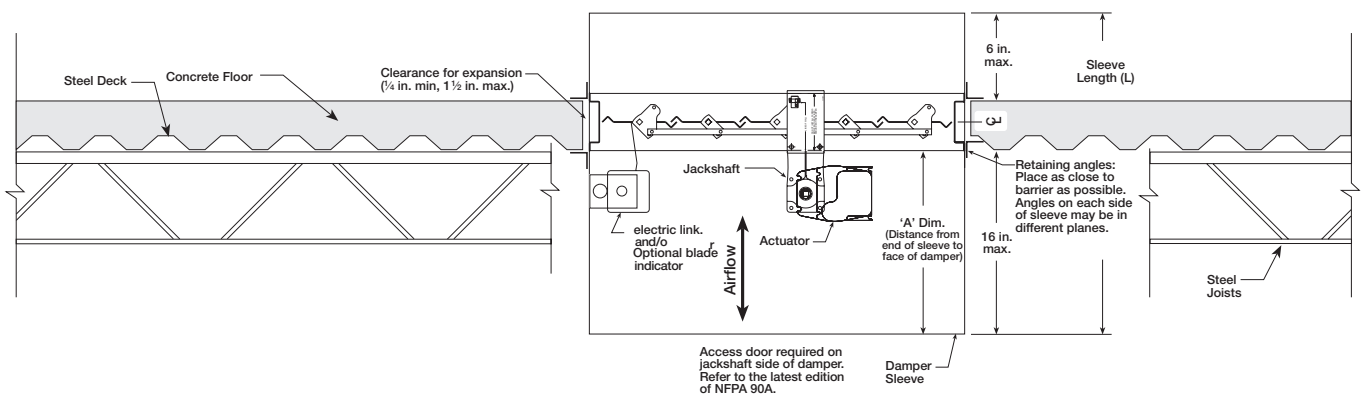

Figure 1: Damper installed in the concrete floor with a steel deck.
2. Installation of the bottom retaining angle against the uneven steel deck shall be done such that the angles on each side of the sleeve are as close to the barrier as possible. In other words, the angles on each side of the sleeve may be in different planes relative to each other (see Figure 1 and 2).